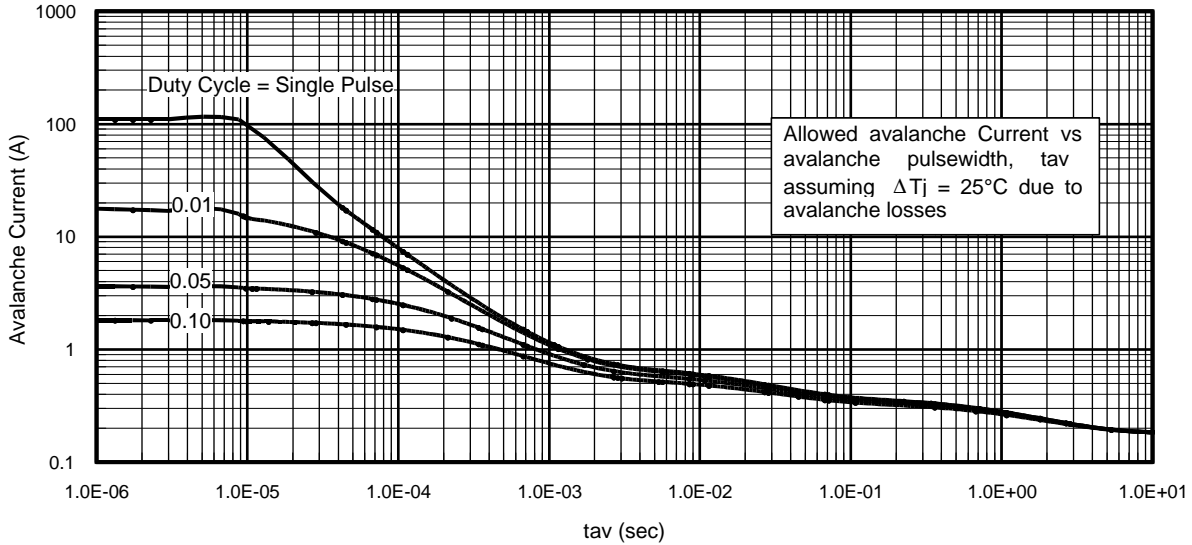

Fig 14. Typical Avalanche Current Vs. Pulsewidth
Notes on Repetitive Avalanche Curves , Figures 14, 15:
7. ΔT = Allowable rise in junction temperature, not to exceed T_{jmax} (assumed as 25°C in Figure 14, 15).
- ① Repetitive rating; pulse width limited by max. junction temperature.
- ② Starting $T_J = 25^\circ\text{C}$, $L = 1.5\text{mH}$, $R_G = 25\Omega$, $I_{AS} = 13\text{A}$.
- ③ Pulse width $\leq 400\mu\text{s}$; duty cycle $\leq 2\%$.
- ④ R_θ is measured at T_J of approximately 90°C .
- ⑤ Limited by T_{Jmax} . See Figs. 14, 15, 17a, 17b for repetitive avalanche information.